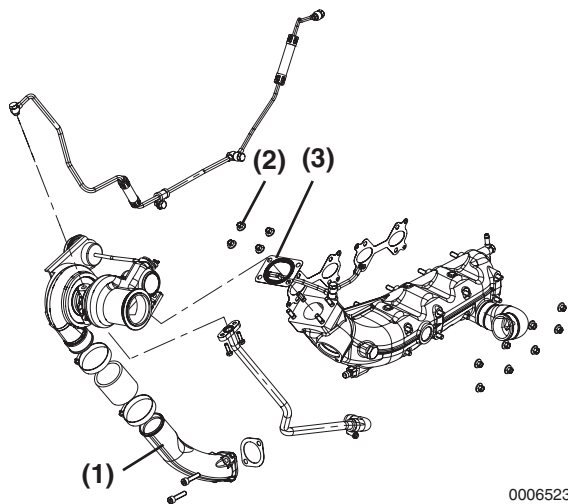

Figure 9-4
2. Apply a light coating of copper anti-seize to turbocharger bolts (**Figure 9-4, (2)**).
3. Install turbocharger to exhaust manifold with a new gasket (**Figure 9-4, (3)**). Tighten bolts to 23 N·m (204 in.-lb).
4. Connect charge air pipe (**Figure 9-4, (1)**) and tighten clamps securely.